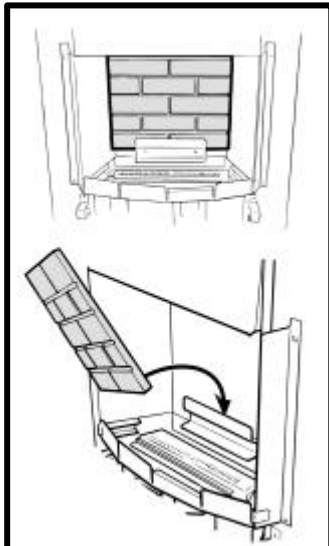

Fig. 26 Ceramic rear wall installation
10.1 With its feather edge at the top, place the ceramic rear wall into the channel at the back of the firebox. Push the wall flat against the rear of the fire box. (See figure 26).